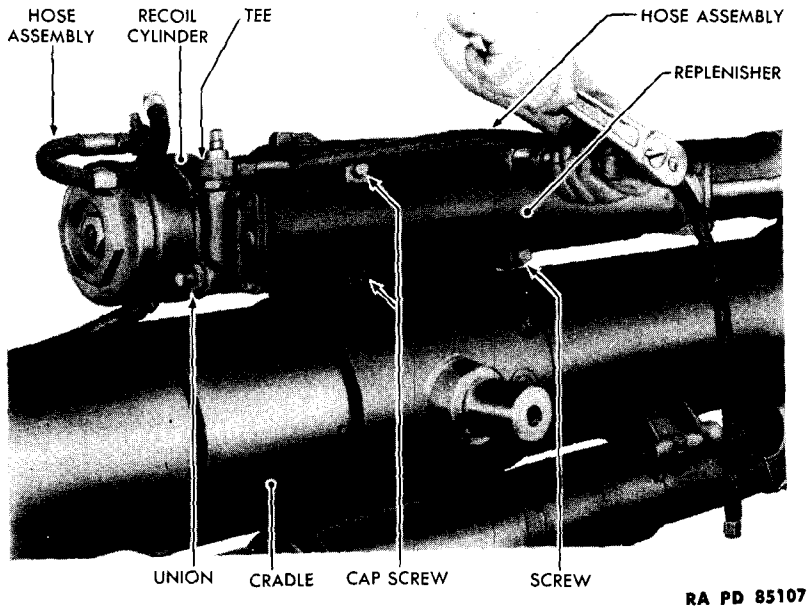

Figure 69 – Removal of Replenisher
c. Remove Replenisher (fig. 69).
(1) Disconnect hose assembly from union located on forward end of replenisher and tie hose assembly to upper recoil cylinder.
(2) Remove two cap screws and lock washers that secure forward end of replenisher to cradle, and two screws that secure rear end of replenisher to cradle. Remove replenisher and place on bench.